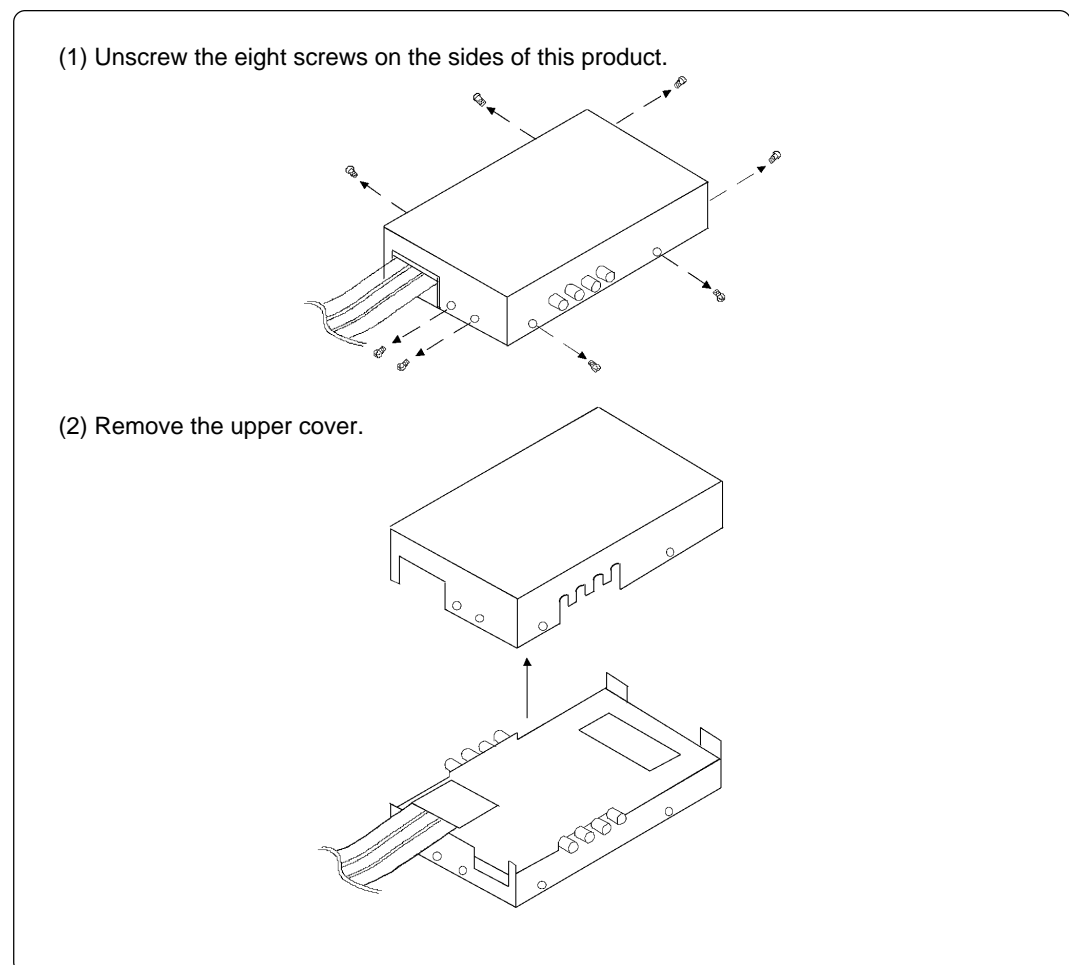

Figure 3.1 Removing the upper cover
- (1) Remove the eight screws of this product and lift off the upper cover (see Figure 3.1).
- (2) Set the jumper switches.
- (3) Replace the upper cover and secure it with the eight screws.